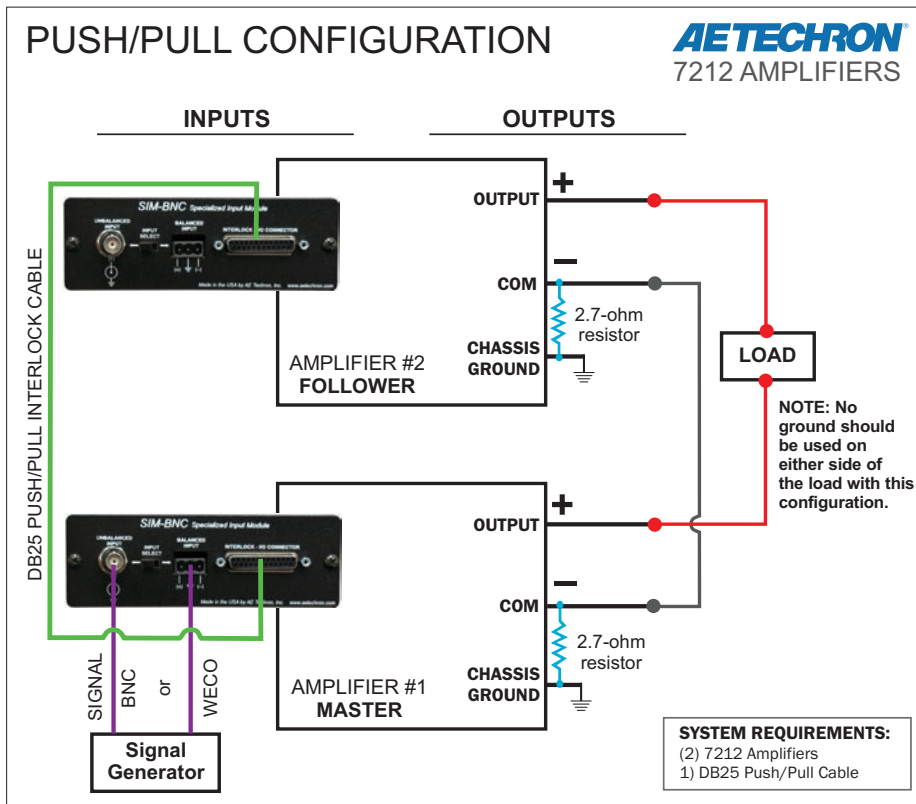

Figure B.2.15 – 7212 Push/Pull Configuration
5. Check the completed system diagram in **Figure B.2.15** to verify proper system setup.